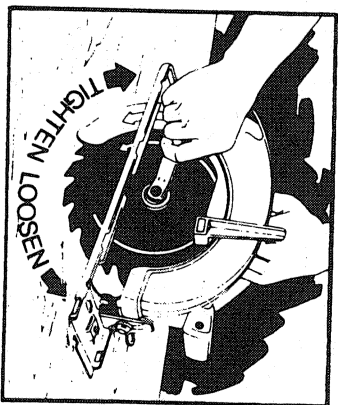

FIGURE 2
b. ON SAWS WITH BLADE ATTACHED. Using the retracting lever, retract the lower blade guard and place the Saw on a piece of scrap lumber as shown in Figure 2. Press down on the Saw so that the blade teeth dig slightly into the lumber and prevent the blade from turning. Then, with a blade wrench provided, turn the clamping screw counter-clockwise and remove the screw and outer clamp washer. Disengage the blade teeth from the lumber, and with the lower blade guard still retracted, lift off the blade.
3. To attach the blade: Place inner clamp washer on spindle if previously removed. Retract lower blade guard and place blade over inner clamp washer with printed side of blade out (teeth at bottom of blade pointing forward). Fit outer clamp washer onto spindle... "flats" on the outer washer must mesh with the "flats" on the spindle. Thread on clamping screw firmly by hand to hold washers in position. Place Saw on piece of scrap lumber as shown in Figure 2 and press down on the Saw so that blade teeth dig slightly into wood and prevent the blade from turning. Tighten clamping screw (clockwise) firmly with the blade wrench.